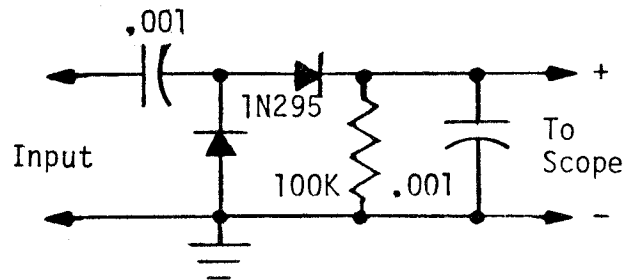

Figure 4-4. High-Impedance Detector
- i) High-Impedance Detector, (Refer to Figure 4-4).
3. Connect input of High-Impedance Detector (Figure 4-4) to pin 1 of IC-101; then, connect detector output to scope VERTICAL input.